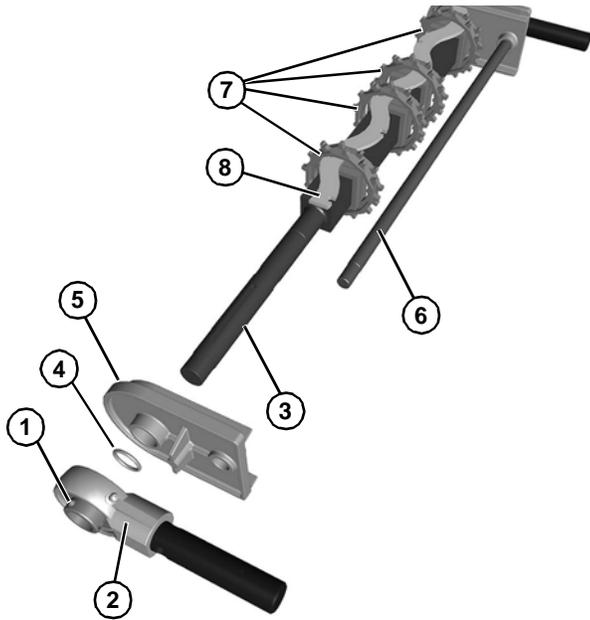

**Figure 63**
5. Remove the pull pin (**Figure 63, item 1**).
6. Slide the drive tail assembly (**Figure 63, item 2**) out of the take-up blocks (**Figure 63, item 3**).